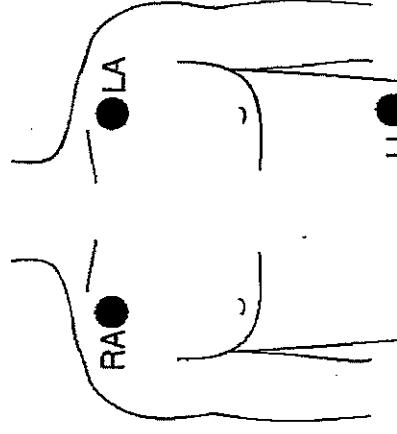

Figure 5-2 ECG electrode placement
- Minimize signal distortion (pacing distortion), keep ECG electrodes away from pacing electrodes by applying: RA to far upper right torso beneath the clavicle; LA to the far upper left torso beneath the clavicle; LL to lower left torso. These locations may minimize signal distortion (see Figure 5-2).